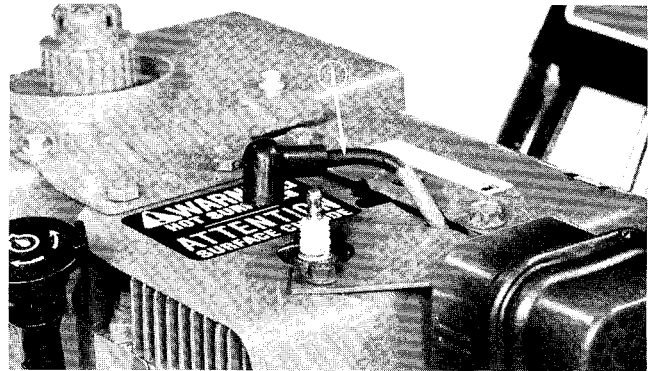

Figure 36
2. Pull high tension wire off spark plug (Fig. 36), and remove plug from cylinder head.
4. Push the high tension wire onto spark plug (Fig. 36).